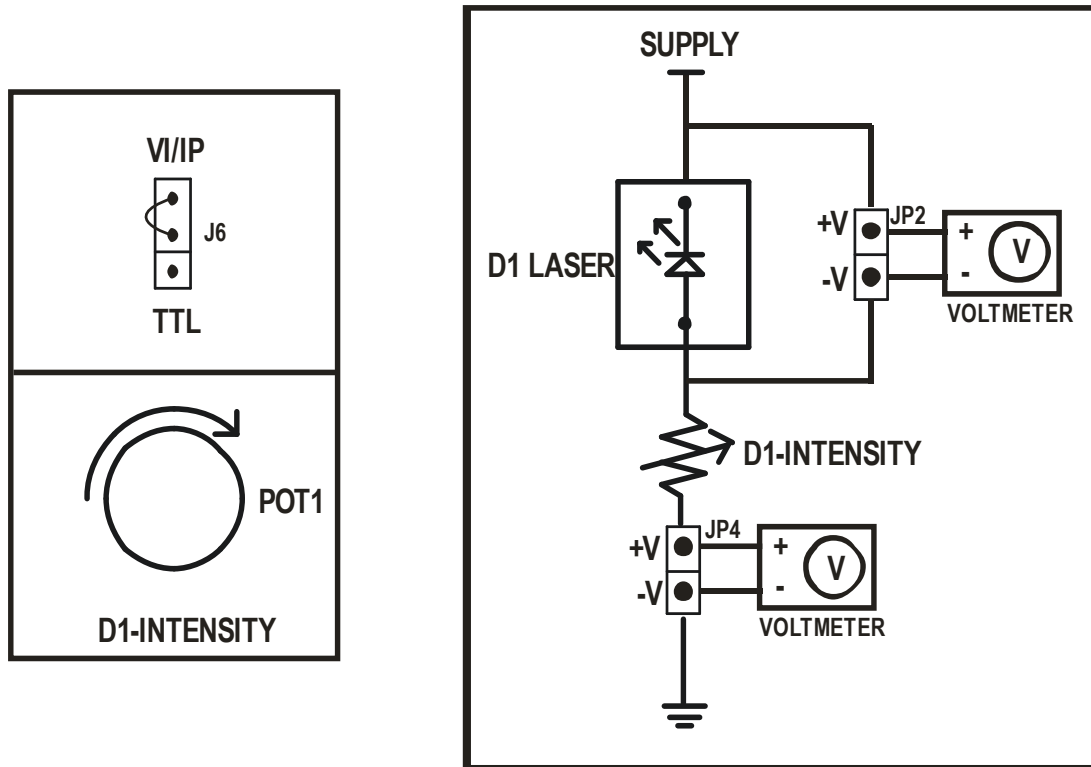

FIG 1A EXPERIMENTAL SETUP FOR VI CHARACTERISTIC OF LASER DIODE.
- Refer to fig 1a and carry out the connections